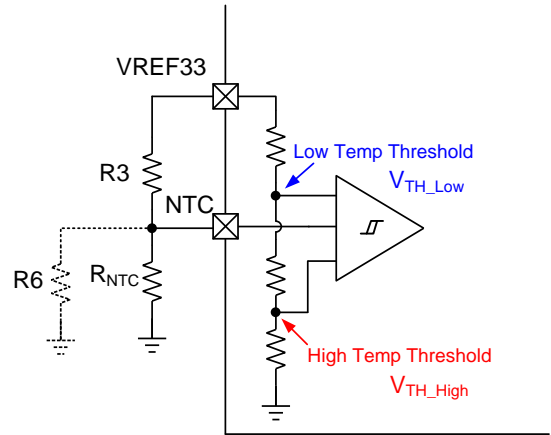

Figure 5: NTC Function Block
The low temperature threshold and high-temperature threshold are preset internally to $V_{TL} \cdot VREF33$ and $V_{TH} \cdot VREF33$ using a resistor divider (see Figure 5). For a given NTC thermistor, select an appropriate R3 and R6 value to set the NTC window with Equation (6) and Equation (7):